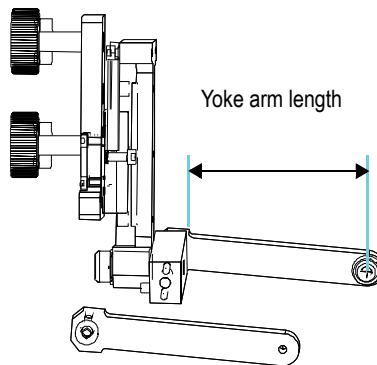
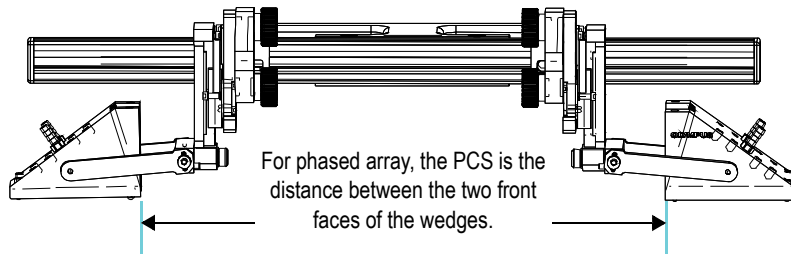

Figure 2-19 WeldROVER—Yoke arm length measurement
Figure 2-20 WeldROVER—PCS measurement for PA wedges
With a pair of PA wedges, the PCS is measured from the face of the wedge to the face of the other wedge (see Figure 2-20 on page 41). The yoke-arm length is measured from the pivot button to the yoke's rear member (see Figure 2-19 on page 40).
- For yoke arm-length measurement, see Figure 2-19 on page 40.